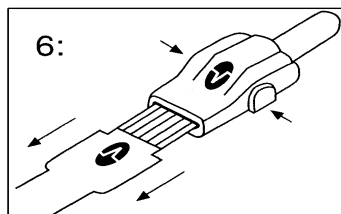

Fig. 36 Disconnecting patient cable and sensor
3. Place thumb and index finger on grey buttons on either side of the patient cable (Fig. 36).